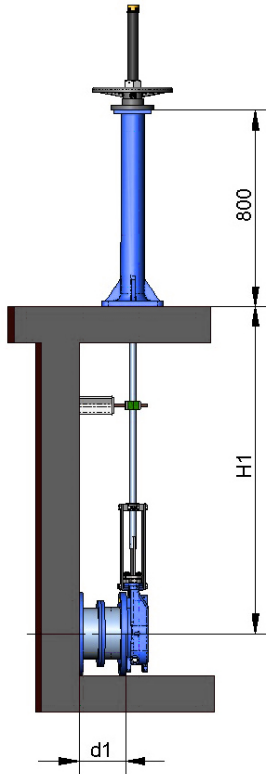

Fig. 8
- The standard floor stand is 800 mm high (fig. 8). Other floor stand measurements available to order.